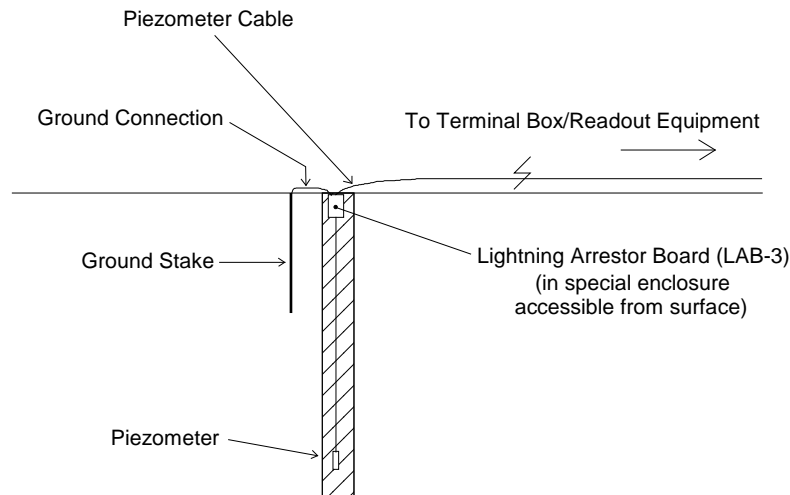

Figure 2-6 Recommended Lightning Protection Scheme
Because the vibrating wire output signal is a frequency rather than current or voltage, variations in cable resistance have little effect on gage readings and, therefore, splicing of cables has no effect either and, in some cases, may be beneficial. For example, if multiple piezometers are installed in a borehole, and the distance from the borehole to the terminal box or datalogger is great, a splice (or junction box, see Figure 2-6) could be made to connect the individual cables to a single multi-conductor cable. This multi-conductor cable would then be run to the readout station. For such installations it is recommended that the piezometer be supplied with enough cable to reach the installation depth plus extra cable to pass through drilling equipment (rods, casing, etc.). The cable used for making splices should be a high quality twisted pair type with 100% shielding (with integral shield drain wire). When splicing, it is very important that the shield drain wires be spliced together! Splice kits recommended by Geokon incorporate casts placed around the splice then filled with epoxy to waterproof the connections. When properly made, this type of splice is equal or superior to the cable itself in strength and electrical properties. Contact Geokon for splicing materials and additional cable splicing instructions.
- Improved protection using the LAB-3 can be had by placing the board in line with the cable as close as possible to the installed piezometer (see Figure 2-6). This is the recommended method of lightning protection.